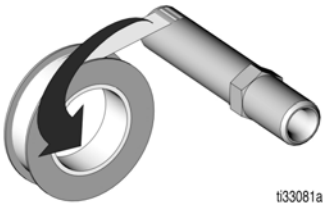

FIG. 13
6. Wrap threads on the long end of nipple adapter (10) with PTFE tape or thread sealant as shown in FIG. 13.